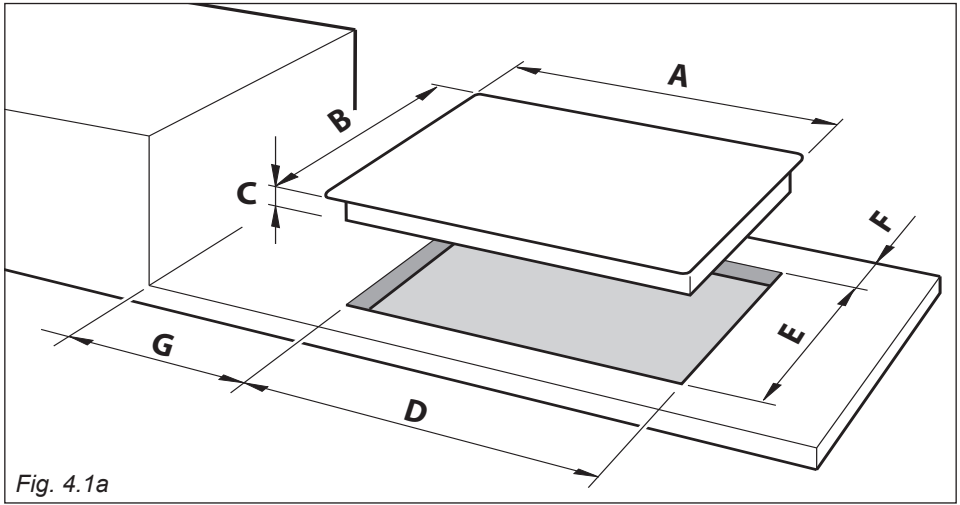

Fig. 4.1a
In order to install the cooker top into the kitchen fixture, a hole with the dimensions shown in fig. 4.1a has to be made, bearing in mind the following:
- The cooker top must be kept no less than 200 mm away from any side wall (from side edge of cutout - figs. 4.1a, 4.1b).
- The hob must be installed at least 60 mm from the wall (from rear edge of cutout - fig. 4.1a).
- Cut the unit according to the dimensions in fig. 4.1a.